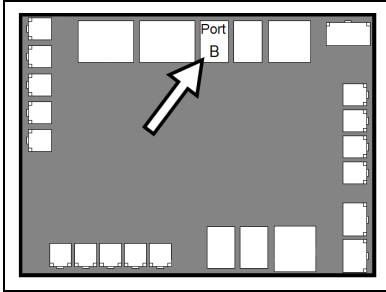

Figure 2
4. Connect control wires to the heat pump's "Port B" of the microprocessor as indicated. See Figure 1 and Figure 2.